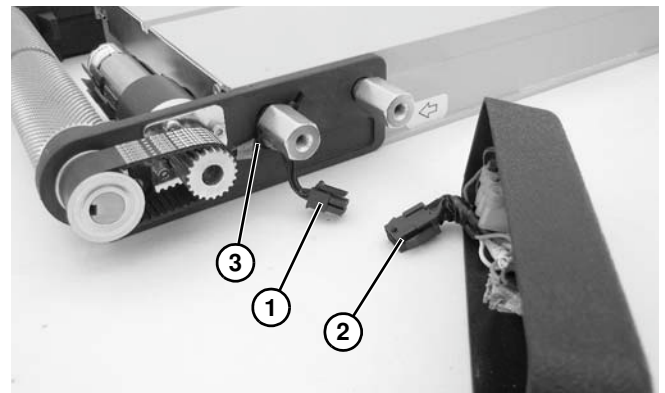

Figure 126
3. Unplug motor connector (**Figure 126, item 1**) from cover wiring connector (**Figure 126, item 2**), and cut cable tie (**Figure 126, item 3**) from conveyor.